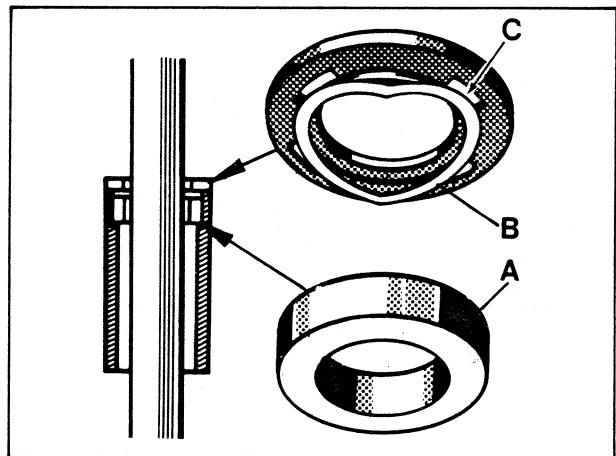

Fig. 3.3
The valve, which is located over the damping spindle, regulates the oil flow, i.e. the damping at loading. The pressure of the washer (A) against the spring of the valve (B) increases at higher suspension speed. As the valve then gets a smaller area, the damping increases. See fig. 3.3